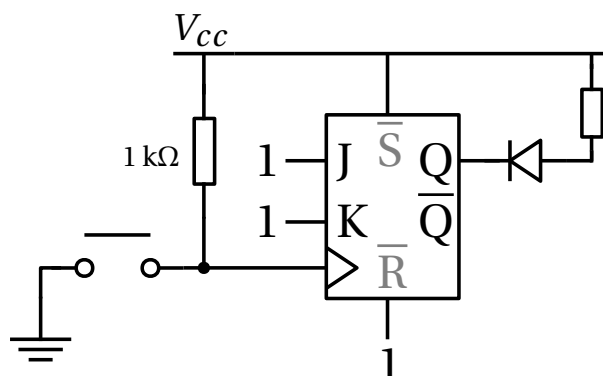

Figure 1:
- Wire-up a negative edge-triggered JK flip-flop in toggle mode with an active-low LED displaying its output, and a push-button with $1 \text{ k}\Omega$ pull-up resistor as input to its clock. See Fig. 1.